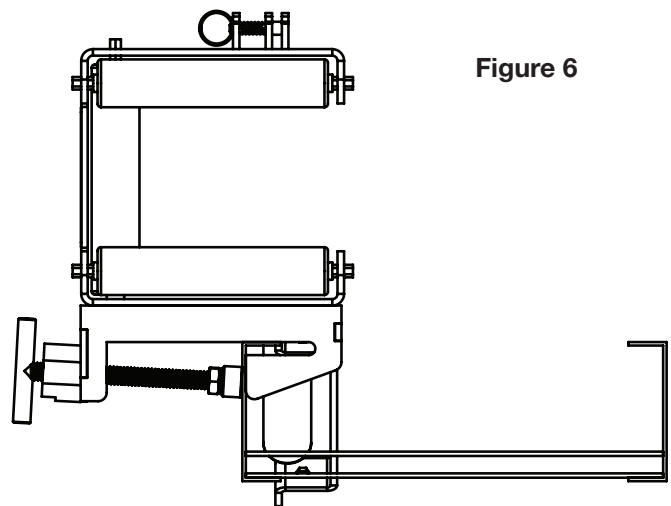

Figure 6
- Orient the roller so that the unit opens on the inside of the tray as shown in Figure 6.
- Pull the spring-loaded release pin to pivot the roller and insert or remove cables, as shown in Figure 6. Be sure to securely re-lock the pivoting roller when closed.